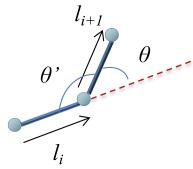

Figure 1.5: A joint in a polymer chain.
- Note that Lodge and Hiemenz (2020) uses θ for the *complement* of bond angle, as in Figure 1.5. Other texts may use a different convention.
- From Figure 1.5, trigonometry tells us that